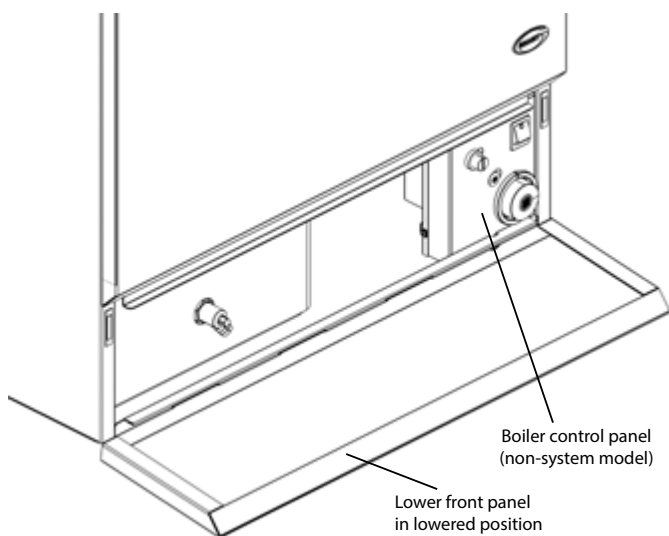
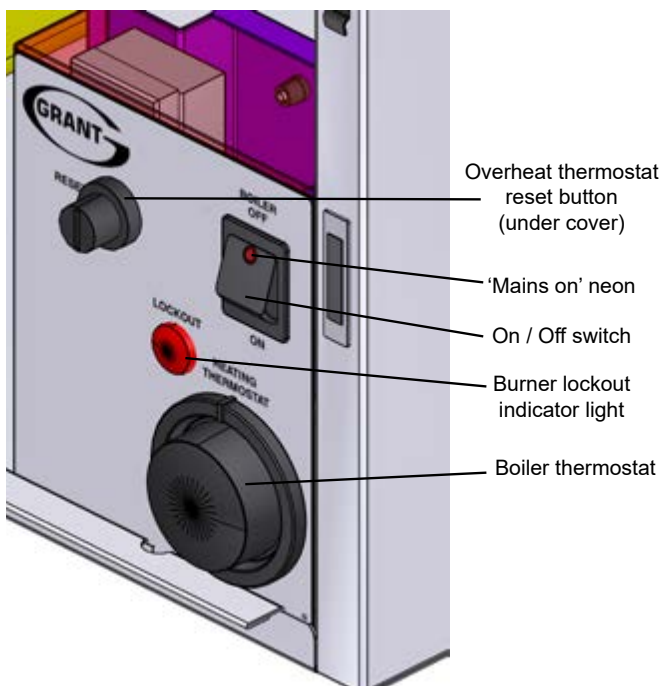

Figure 1-1: Boiler lower front panel in lowered position
Figure 2-2: Vortex Eco Wall Hung boiler control panel
Wall hung boilers have a 'mains on' neon, see Figure 2-2, which lights when the boiler is switched on.
To gain access to the boiler controls, hinge the lower front panel down by pulling it out at the top of the panel, as shown in Figure 1-1. This will provide you with access to the boiler control panel, see Figure 2-2.
4. Check if the burner 'Lock-Out' indicator light on the control panel (refer to Figure 2-2 for location) is lit.
Refer to Figure 1-1 for the location of the control panel within the boiler casing and Figure 2-2 for the details of the control panel.
To reset the overheat thermostat, unscrew the small plastic cap marked "reset" (see Figure 2-2), press the button and replace the cap.